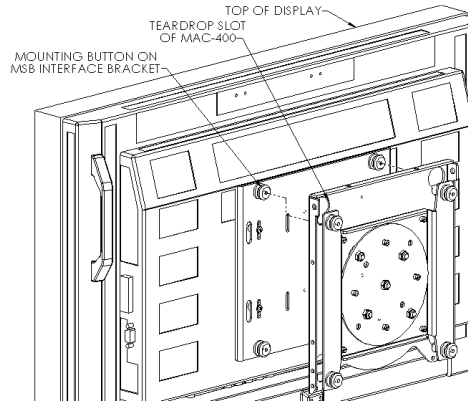

Figure 4
- Attach CH-SMAC400 to Interface Bracket by placing the mounting buttons of interface bracket into the teardrop slots of CH-SMAC400. Make sure the mounting buttons are placed securely in teardrop slots. See Figure 4.